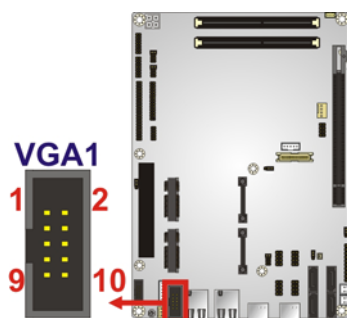

Figure 3-24: VGA Connector Location
- CN Location:** See **Figure 3-24**